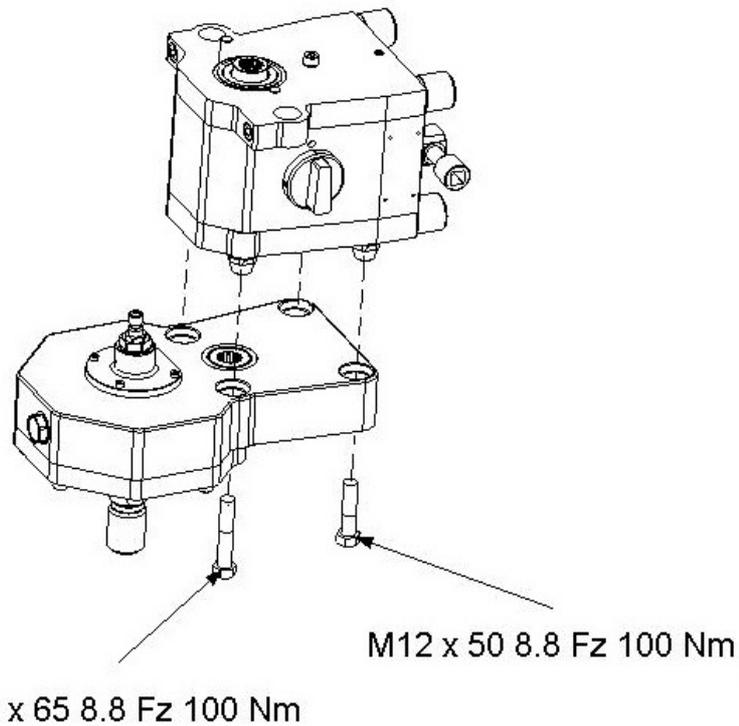

Fig. 9. Spindle unit-ST2 and gearbox-MG41.
2. Mount the spindle unit on the gearbox (see fig. 9) and tighten the screws to 100Nm.